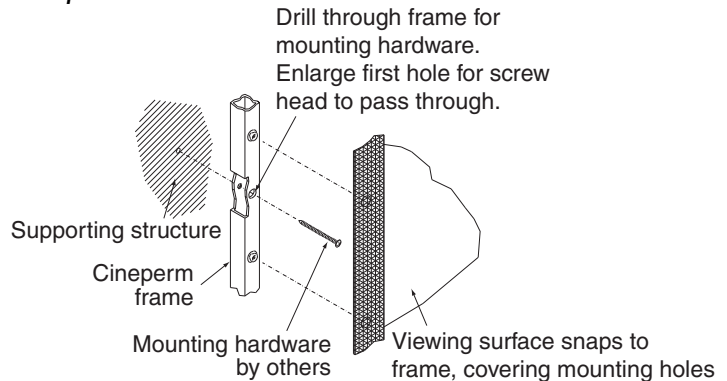

Figure 2
- ① Drill mounting holes in frame (see Fig. 2).
- ② Mark wall and drill holes to correspond with those in the frame.
- ③ Enlarge holes in frame side furthest from wall to allow screw heads to pass through (see Fig. 2). Do not allow screw heads to remain outside the frame: overtightening could bend frame and affect screen flatness.
- ④ Attach frame to wall using appropriate fasteners for mounting surface (provided by others).